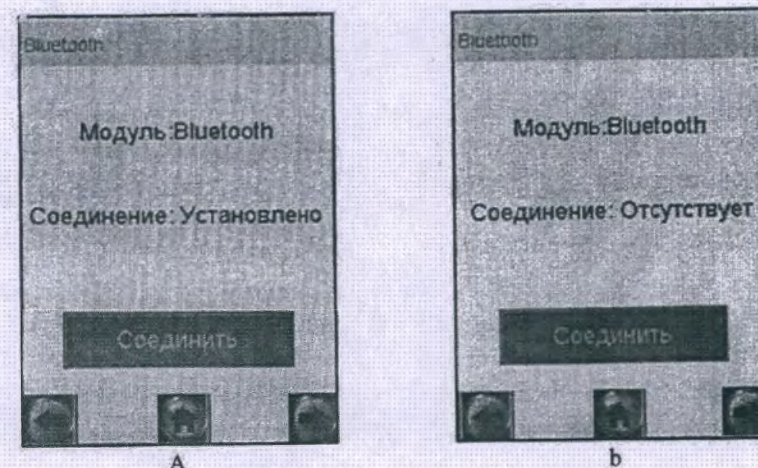

Figure 10 – Bluetooth window (possible options)
2.5.8.1 Go to the “**User Settings**” menu (according to 2.5.4 of this manual), then click on the “**Bluetooth**” button (Figure 6). The “**Bluetooth**” window will appear on the screen (Figure 10).
- “**Connection: Established**” – if there is a connection with a thermal printer or external device via Bluetooth (Figure 10, a) ;
- “**Connection: No**” – if there is no connection with a thermal printer or external device via Bluetooth (Figure 10, b) .
2.5.8.3 To establish a connection (pairing) of the analyzer with a thermal printer, turn on the thermal printer by long (for 2-3 seconds) pressing the on / off button on the thermal printer, and the on / off button indicator light will light up. In the “**Bluetooth**” window, click the “**Connect**” button, after a few seconds the connection status will change to “**Established**” (Figure 10, a), otherwise click the “**Connect**” button again.